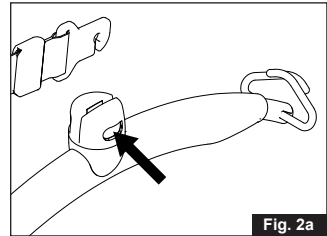

Fig. 2a
1. Press the yellow button and hold it in while the lifting strap's hook is inserted into the opening of the top cover of the lifting hanger (fig. 2a - 2b).